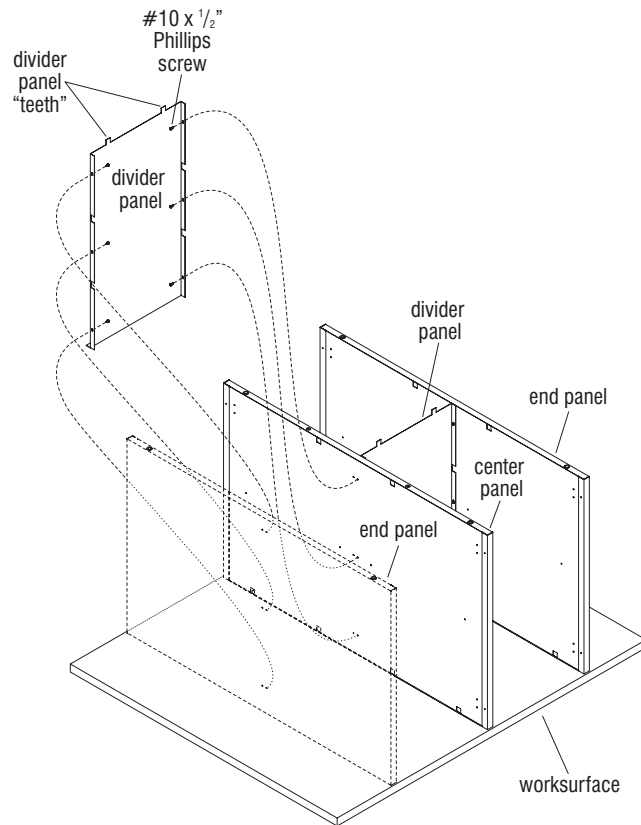
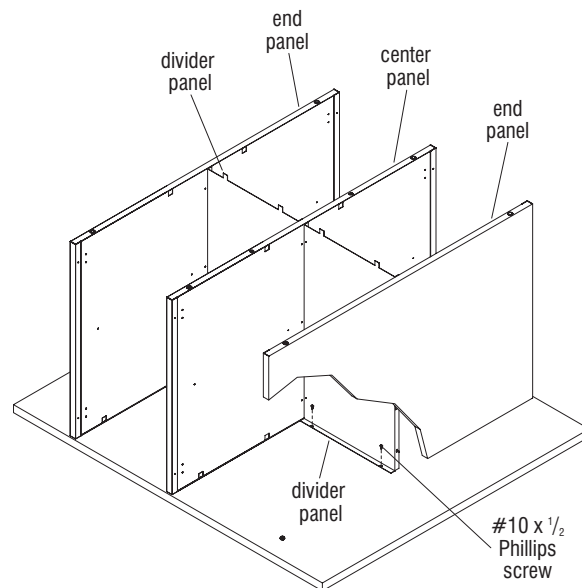

Figure 2
Figure 3
4. One at a time, position a divider panel with the two "teeth" pointed up as illustrated. Insert the panel down between the installed end and center panel at the mounting holes in the middle of the panels. Position the panel so the mounting holes in the ends of the divider panel align with the mounting holes in the middle of the end and center panels (Figure 2). Assure also that the mounting holes align where the divider meets the pre-drilled holes in the worksurface underside, or the panel must be moved over to the next set of holes so all align properly (Figure 3).
5. Using six #10 x 1/2" Phillips screws (three at each side) secure the divider panel to both the end and center panels. Then, using two #10 x 1/2" screws, secure the divider panel to the underside of the worksurface. Repeat steps 4 and 5 above for second divider panel (Figure 2 & 3).